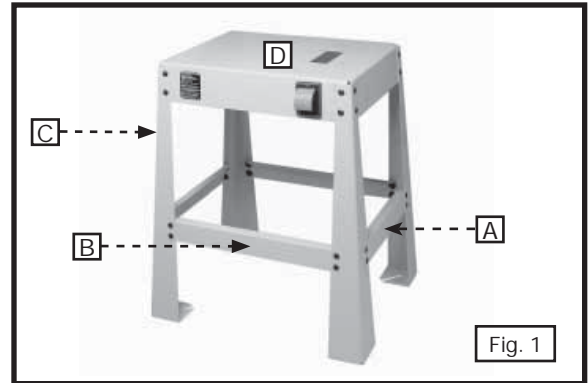

Fig. 1
1. Use sixteen 5/8" carriage bolts, flat washers, lockwashers, and hex nuts to attach two short lower braces (A) Fig. 1 and two long lower braces (B) to the four legs (C).